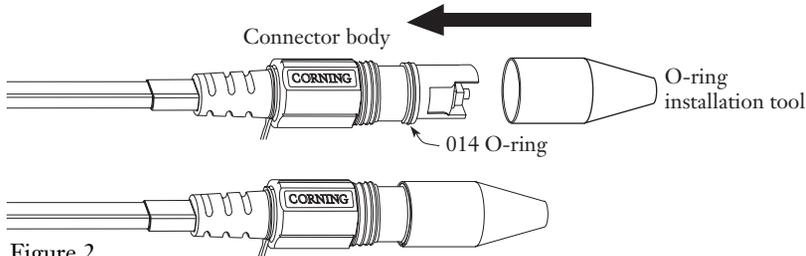

Figure 2
2.1 Slide the open end of the installation tool over the end of the OptiFit plug body and its factory-installed 014 O-ring (Figure 2)